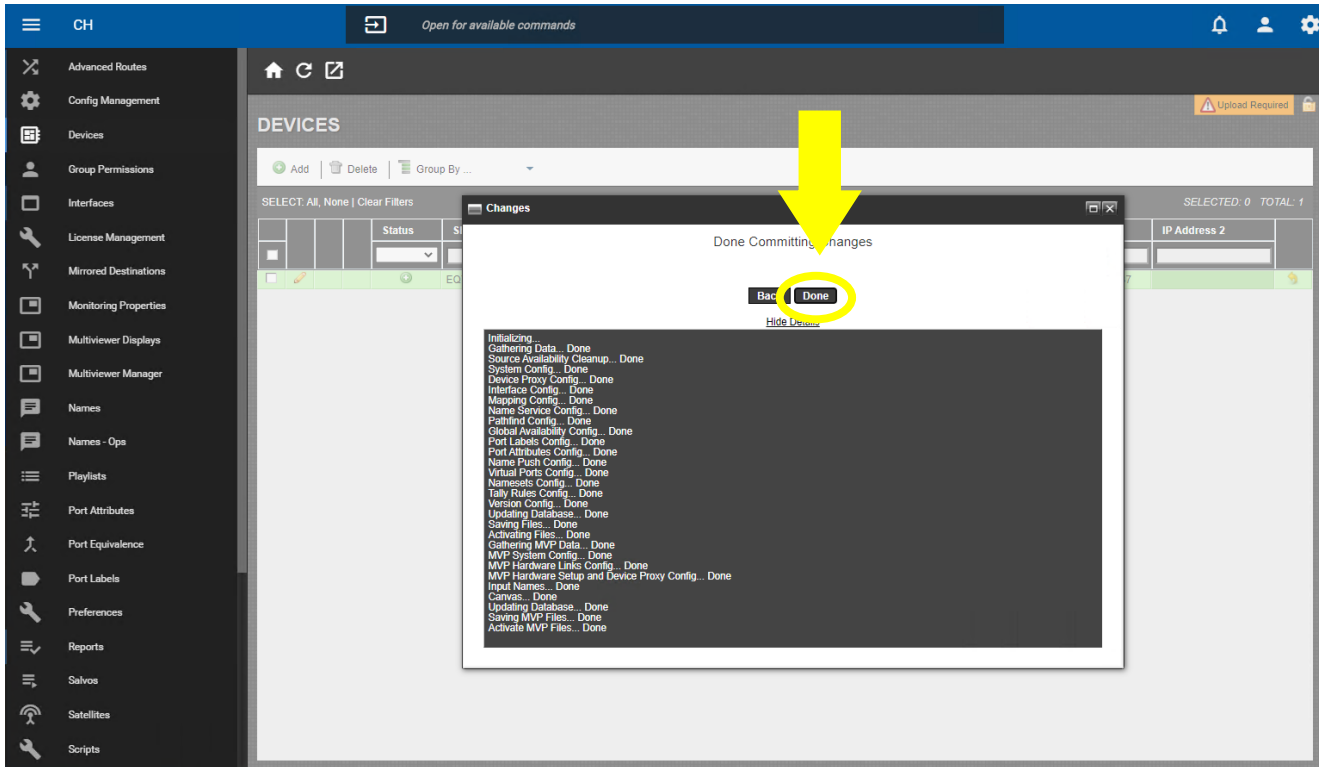

Figure 9-9 : MAGNUM - Complete Configuration
13. Once the server update is complete, click “Done” (see Figure 9-9).
**NOTE:** Since changes were done, an upload is required. Follow the steps described in Figure 9-8 and Figure 9-9.